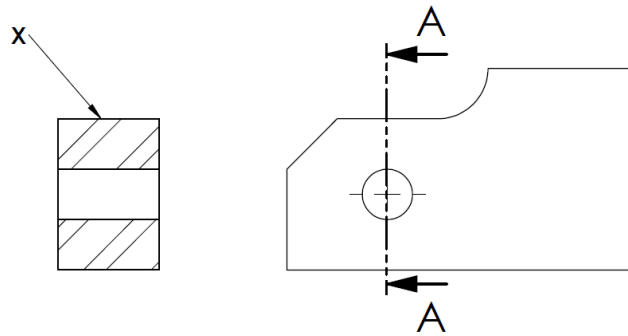

Figure 1.2
c) What is the name of the view indicated by X in the above Figure 1.2.